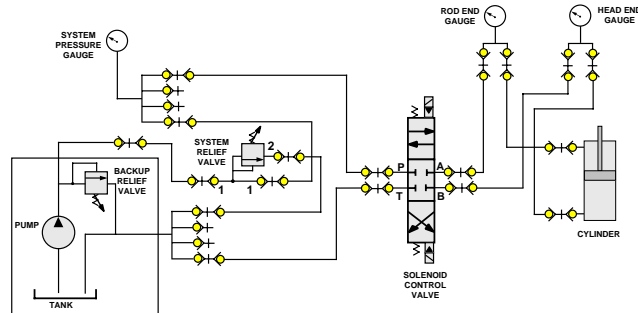

Fig. 3.5.32 Circuit
1. Construct the circuit in Figure 3.5.32.